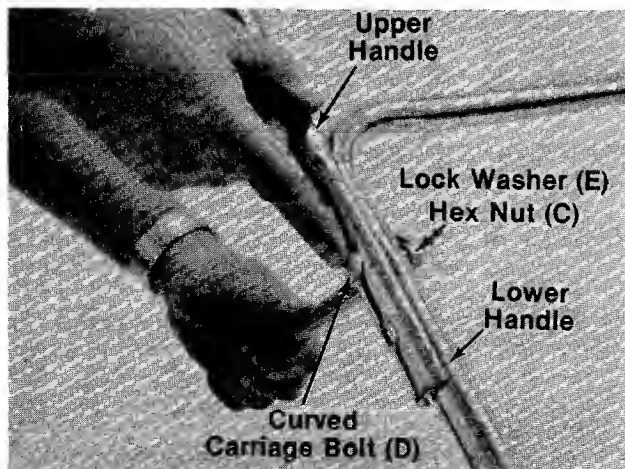
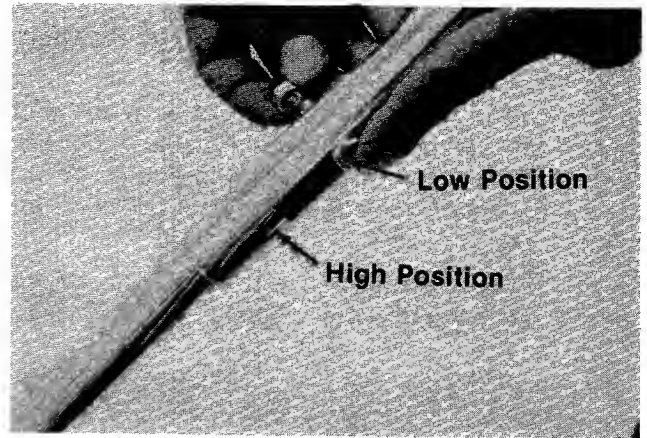

FIGURE 3.
FIGURE 9.
- ← 4. There are two height positions for the handle. Place upper handle in position over lower handle, selecting hole for either high or low position. Refer to figure 9. Secure with curved carriage bolts (D), lock washers (E) and hex nuts (C) as shown in figure 3.
The upper handle can be adjusted to a high or low position. The adjustment is made by removing the hex nuts, lock washers and curved carriage bolts, and reassembling in the other position. See figure 9.